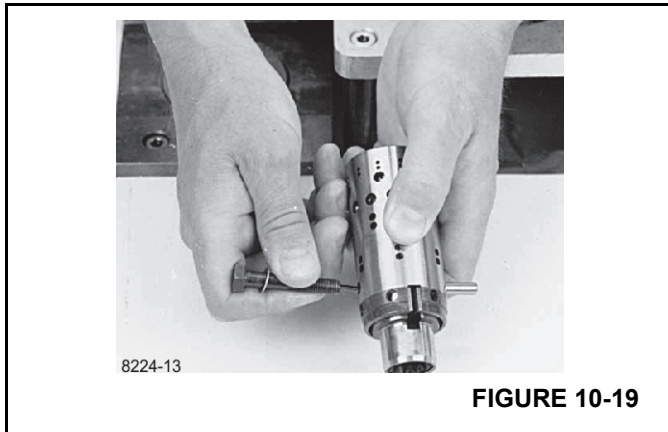

FIGURE 10-19
11. Press out the cross pin. Use the special screw from the end cover (Figure 10-19).